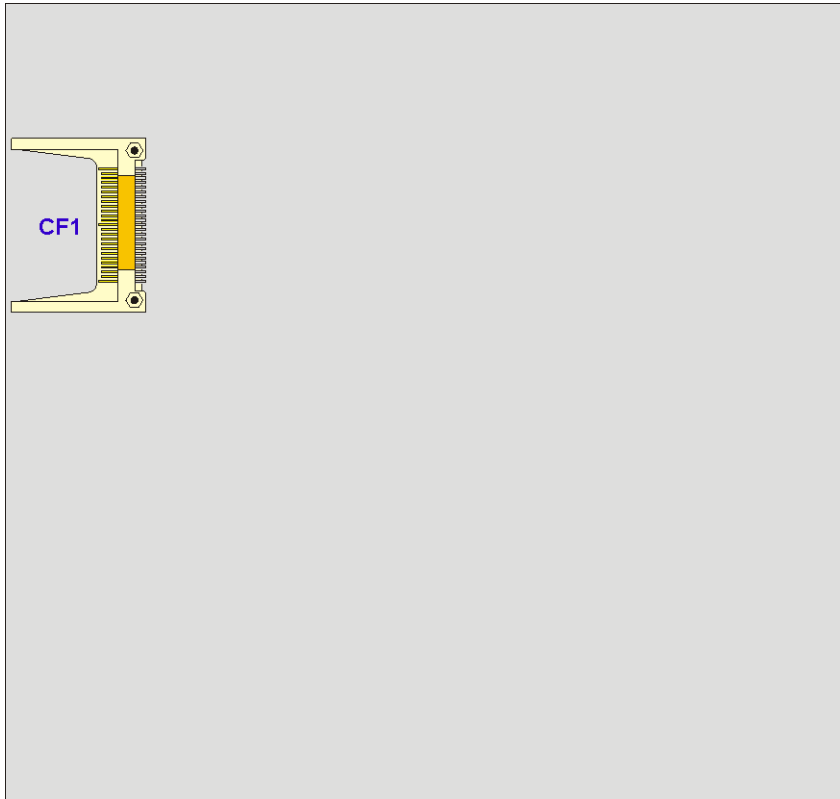

Figure 3-2: Connector and Jumper Locations (Solder Side)
**Figure 3-2** shows the onboard peripheral connectors on the solder side of the board.